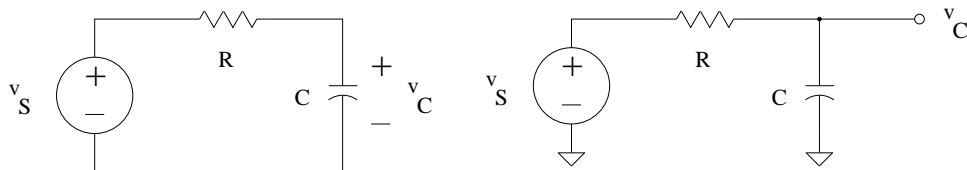

Figure 13: RC circuit
Consider the RC circuit of Figure 13 in which the source voltage varies over time. The input is considered to be the source $v_s(t)$ and the output is the voltage across the capacitor, $v_C(t)$. The simplified network is shown on the right. As is the convention, simplified schematics always show voltages with respect to ground.
- Construct the circuit of Figure 13 using a resistance of $R = 51\text{ k}\Omega$ and capacitance of $C = 47\text{ }\mu\text{F}$. Note that this capacitor is probably electrolytic. This means that there is a polarity and the (-) must be oriented toward ground. If you fail to do this, the capacitor could explode.